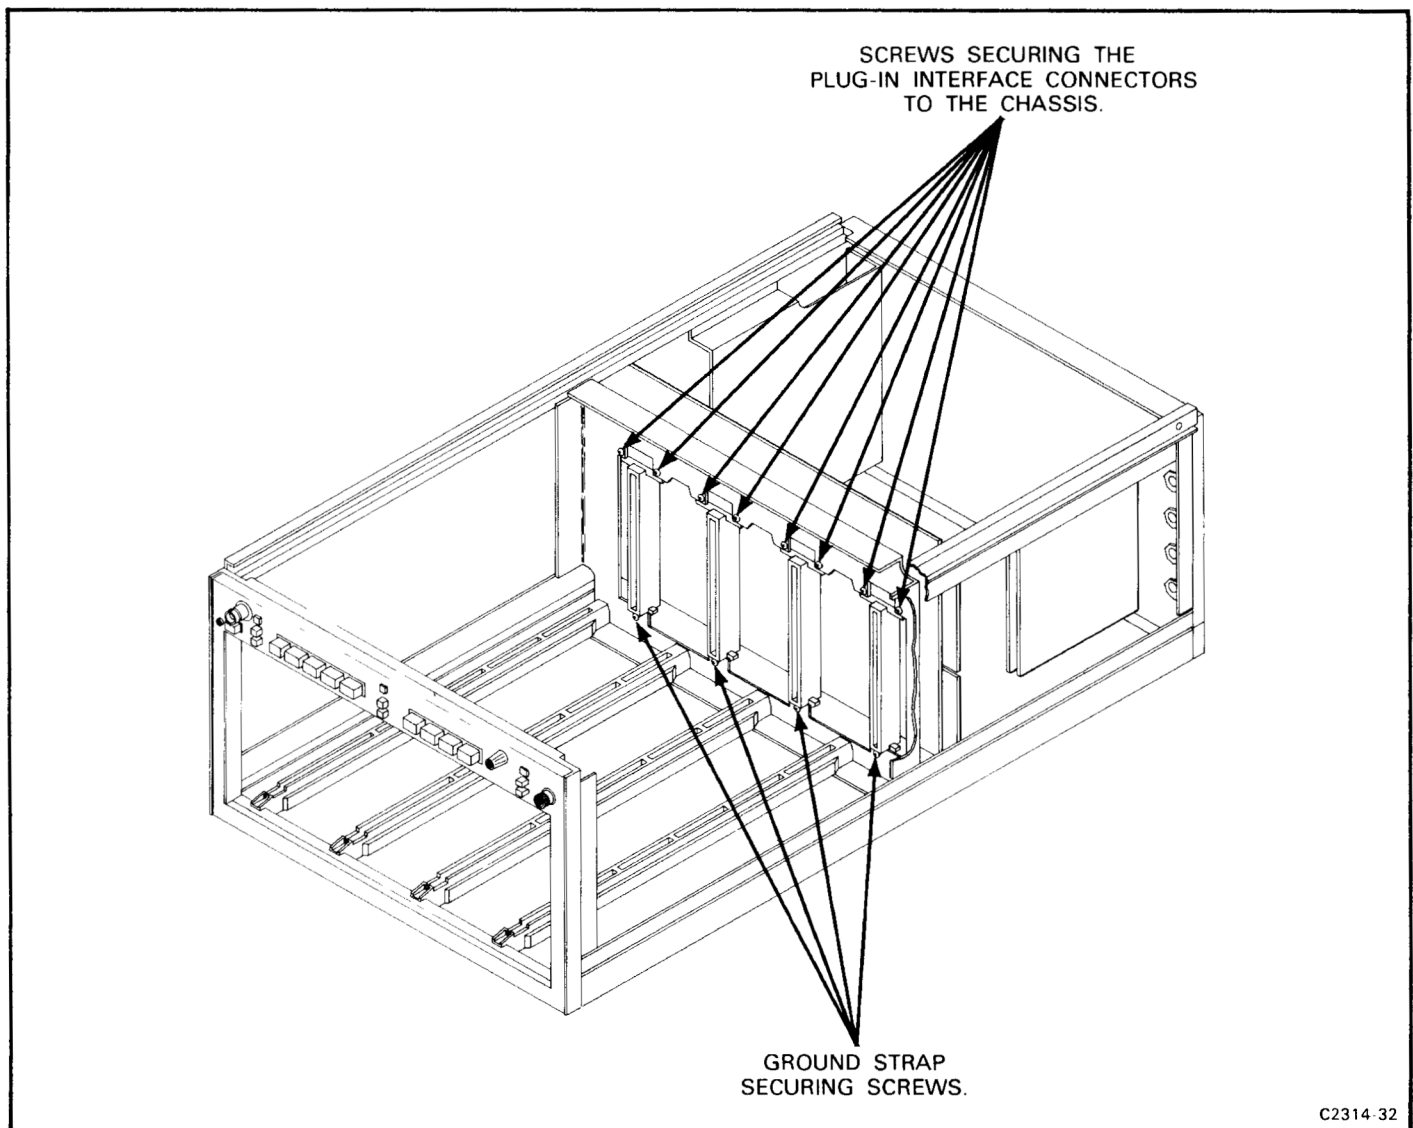

Figure 4-12. Location of securing screws for the A6-Main interface board.
3. Remove the screws from inside each plug-in compartment which hold the plug-in interface connectors to the chassis (see Fig. 4-12).